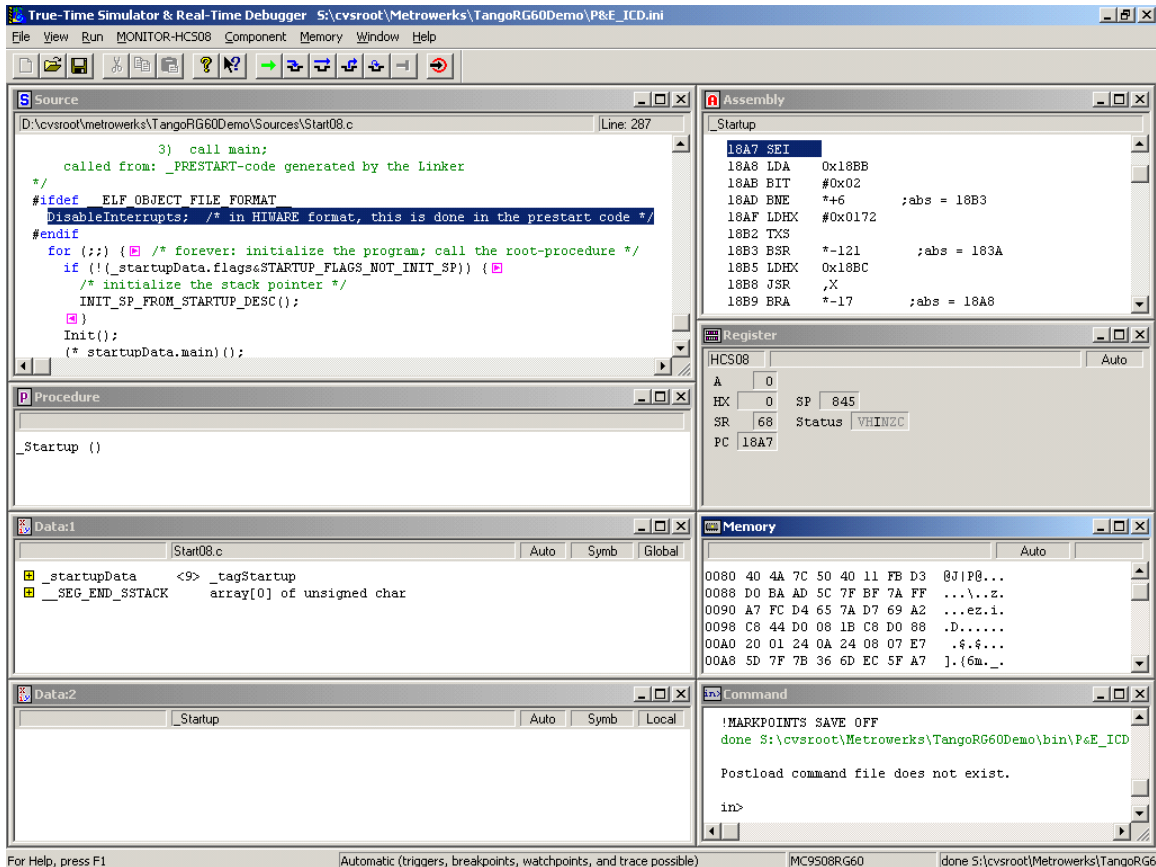

Figure 3. Screenshot of Debugger after Programming
11. If the MCU's FLASH memory is blank, the debugger will program the Tango3 monitor into memory. You should see the screenshot shown in Figure 3, when programming is completed. Go to step 14.
14. The debugger will now program the monitor into the MCU's FLASH memory. You should see screenshot shown in Figure 3, when programming is completed.